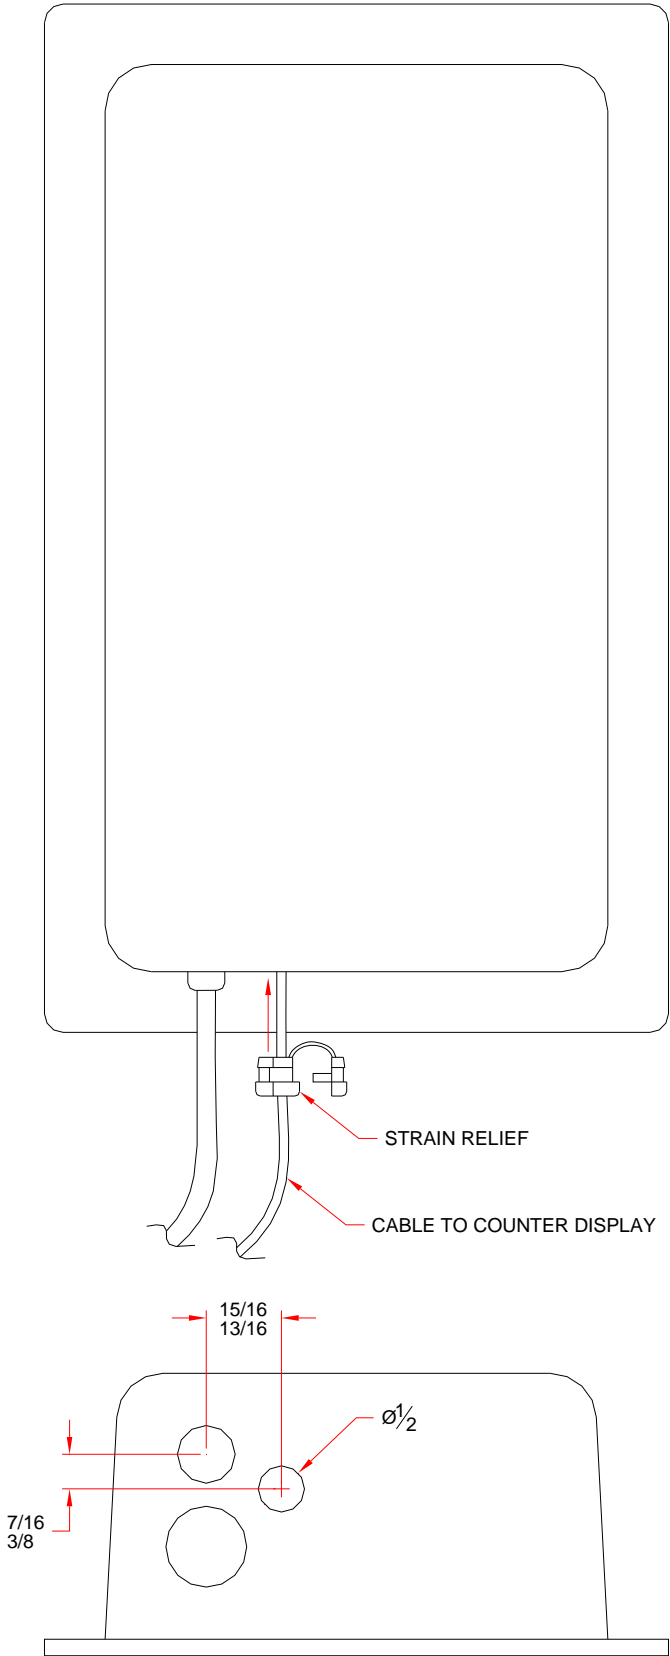

Fig.3
6. Drill a ½" hole into the bottom of the black plastic control board cover, (see Fig 3).